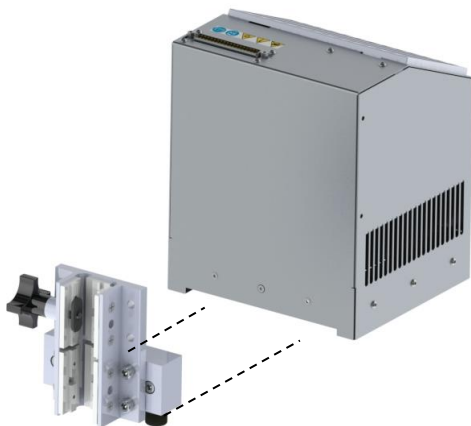

Figure 3. Attach the Carriage to the Emitter
4. Using a 4-mm hex key, attach the carriage to the emitter using the screws supplied with the carriage. (Figure 3)